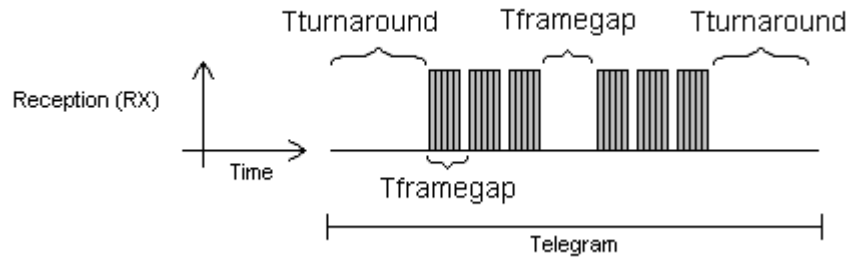

Figure 2.3: BACnet data reception
**Reception (RX):** The maximum time between bytes ( $T_{framegap}$ ) is of 20-bit times, and the minimum time between frames ( $T_{turnaround}$ ) after the last byte stop bit is of 40-bit times, according to the Figure 2.3.
**Transmission (TX):** The RTS signal must be disabled after the end of the stop bit time ( $T_{postdrive}$ ), which is of 15-bit times.